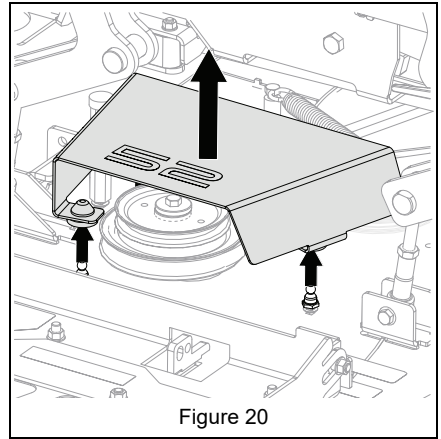

Figure 20
2. Remove belt cover. Retain for operation without bagger. See Figure 20.